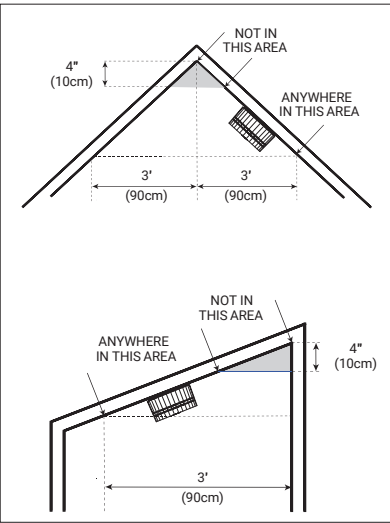

Figure 2
- If you have a sloped, peaked or cathedral ceiling, the alarm should be installed within 3feet (90cm) of the peak of the ceiling measured horizontally.(See Figure 2)